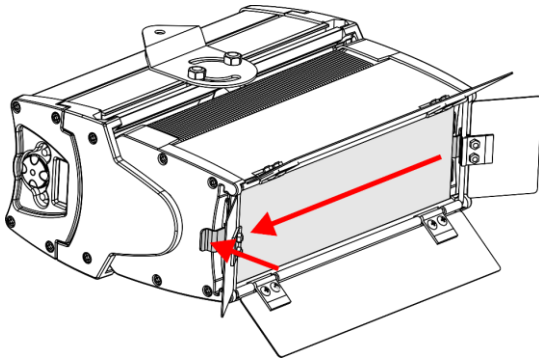

Fig. 12
- 01) Press one of the **beam shaper locks (05)** and at the same time slide the beam shaper out of the device, as shown in Fig. 12.